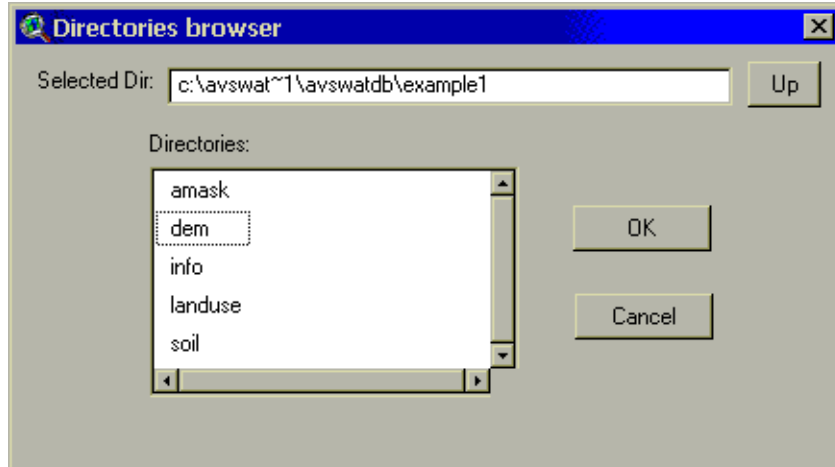

Figure 4.13
6. Once the directory path listed in the text bar is correct (Figure 4.13), click **OK**.